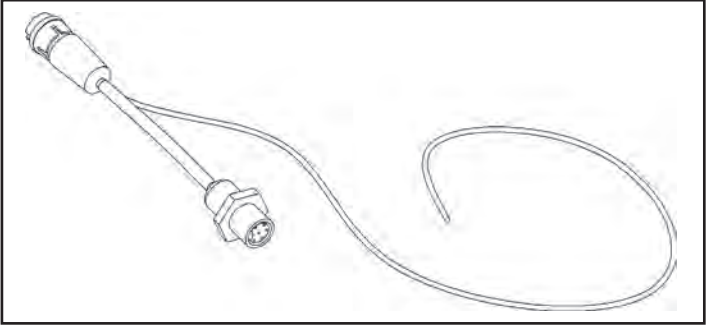
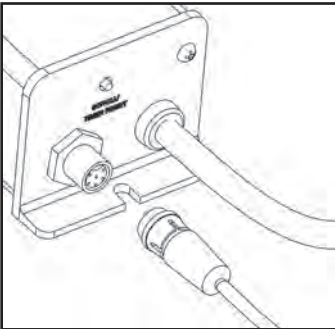
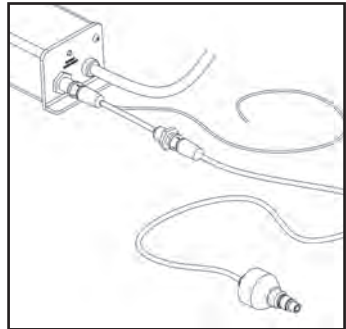

FIGURE 5A
FIGURE 5B
FIGURE 5C
6. 4-20mA output (optional): For those looking for the capability to transmit the UV intensity data to a remote location via a 4-20 mA signal, an optional "Y" cable is available from your dealer (Figure 5A). Please order PN 260134. This "Y" cable comes with 20 meters (65') of cable for the 4-20 mA signal. To install, first remove the existing sensor cable from the Cobalt"Plus" controller (Figure 5B) and affix the new "Y" cable (Figure 5C). Next, attach the "male" end of the existing sensor cable to the "female" end of the new "Y" cable. Appropriately attach the 4-20 mA cable to the applicable equipment and ensure all connections are hand-tight.